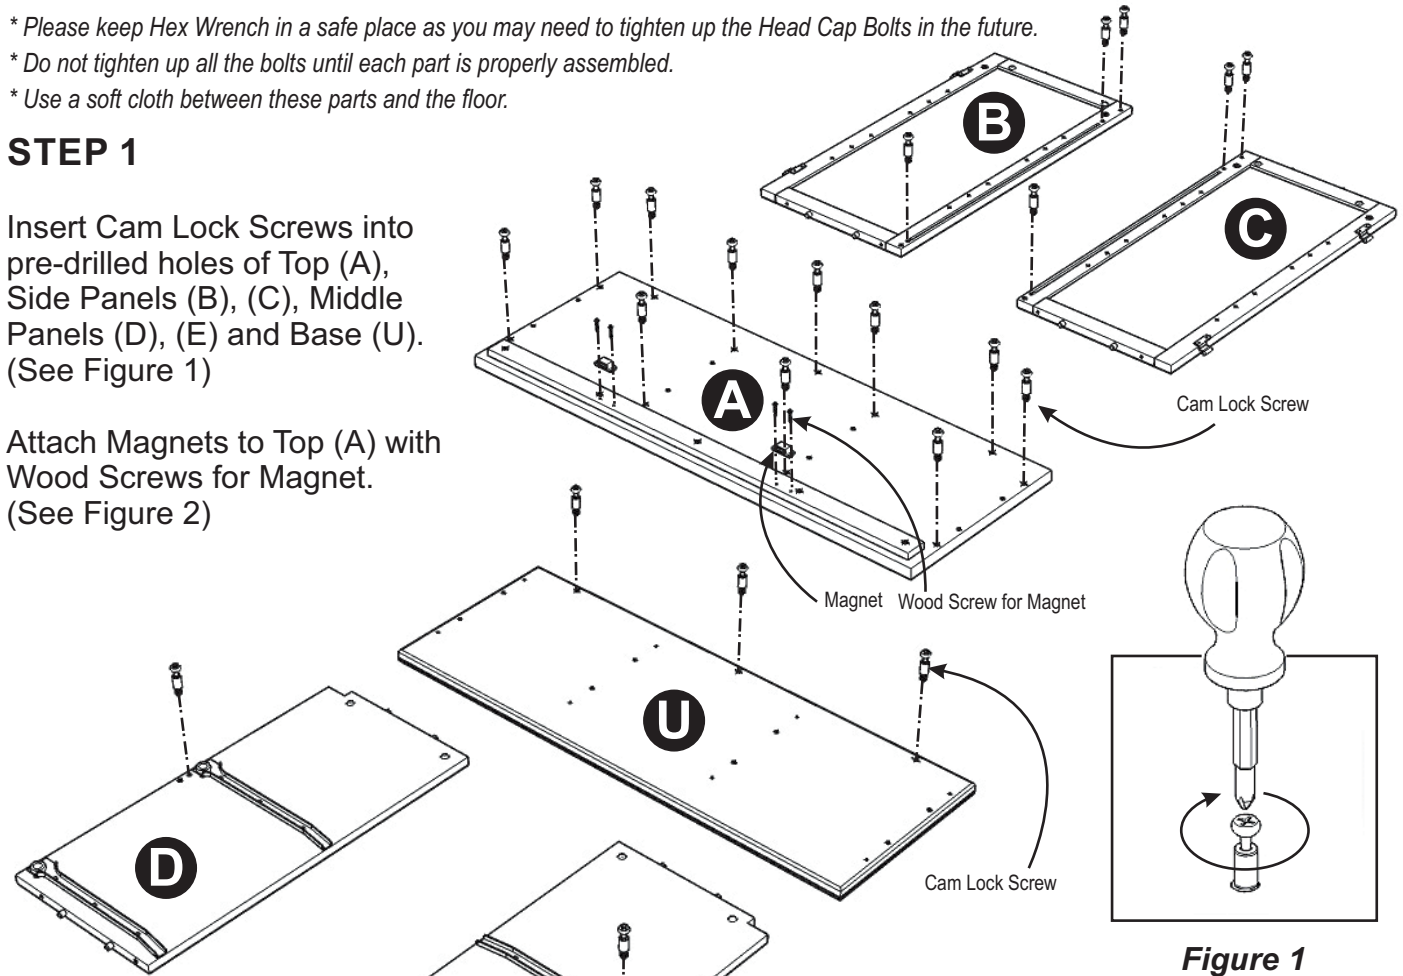

Figure 1
Insert Cam Lock Screws into pre-drilled holes of Top (A), Side Panels (B), (C), Middle Panels (D), (E) and Base (U). (See Figure 1)
Attach T2, T3 and T4 using a Phillips screwdriver and long wood screws (6X), tighten halfway. (See Figure 1)